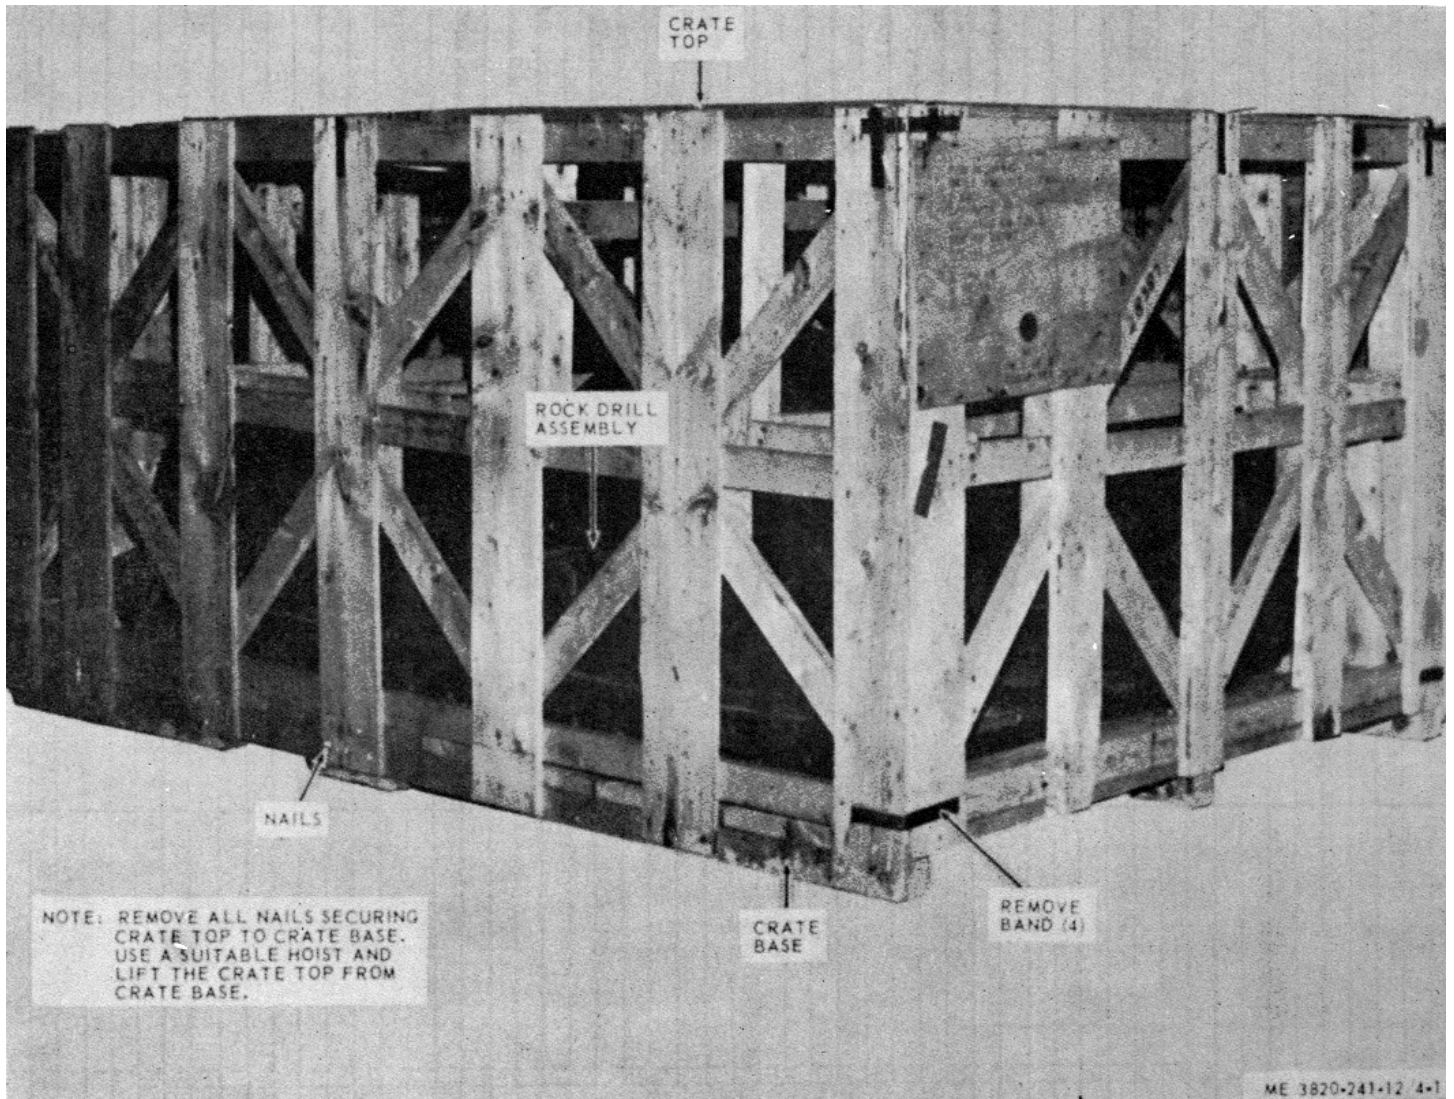

Figure 4-1. Uncrating the rock drill crawler assembly.
(1) Uncrate the rock drill crawler assembly as illustrated in figure 4-1.